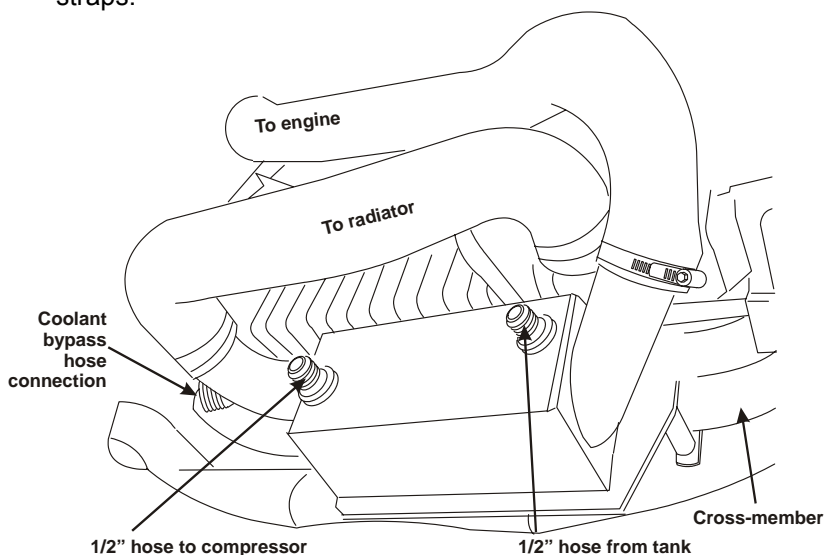

Figure 2.2
- ☐ Place the cooler in position so that the hose on the cooler can be easily installed on the lower radiator spigot and with the threaded fittings facing to the rear of the truck (Figure 2.2). Thread the four bolts into place; leave them loose enough that the cooler can move on the cross-member.